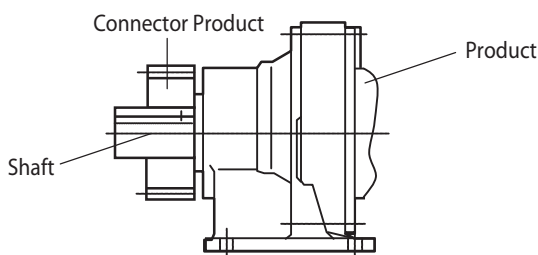
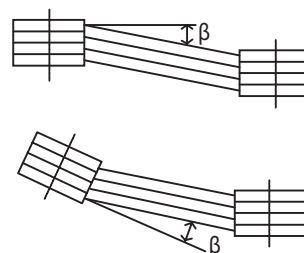

Fig. 5-3
Fig. 5-4
(2) When using chains, sprockets, or gears
- The working load point of the sprocket or gear should go from the center of the shaft to this product. (See figure 5-3)
(3) When using a V-belt
- The parallelism, eccentricity β of the two pulleys should be within $20'$. (See figure 5-4)